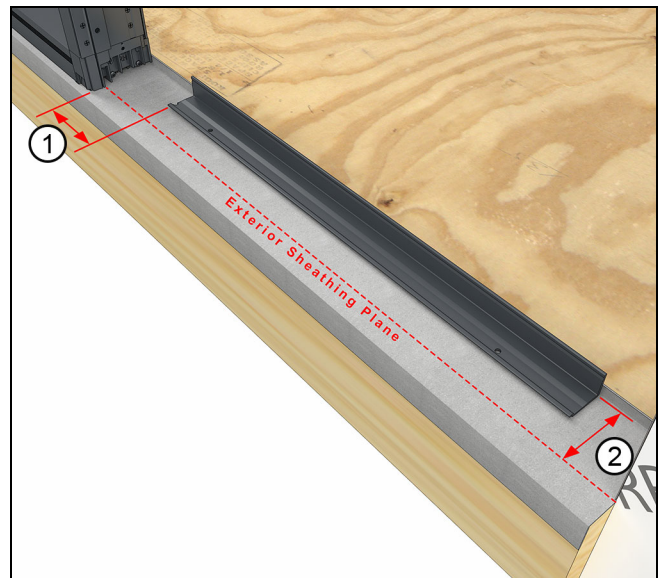

Figure 194
15. When the next unit in the assembly is a door, measure 4 7/16" (113) from the jamb of the first door. Make a mark and install the second sill support at this location, 3 5/16" (84) from the exterior sheathing line. See Figure 194.